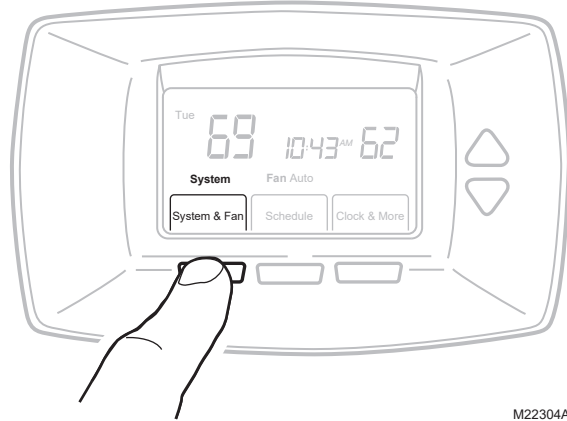

Fig. 32. Entering Installer Setup. Step 1.
1. From the main screen, press SYSTEM. (See Fig. 32.)